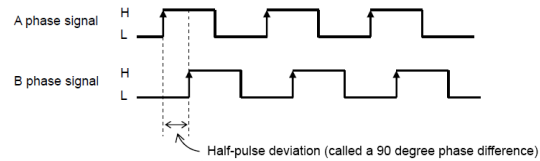

Figure 2-11
- a. For an A/B phase type there should be 90° difference between the pulses from A and B. See Figure 2-11.